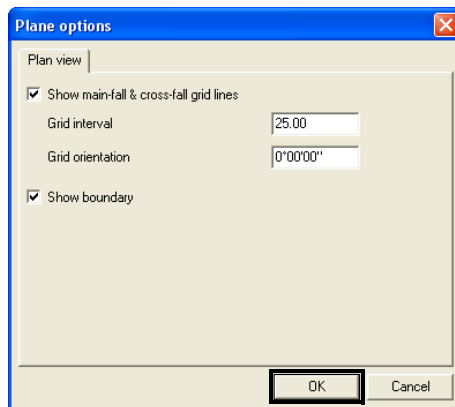

Figure 7-17. Set Plane Surface File Options
2. Select and enter the following information on the *Plane options* dialog box, then click **OK** (Figure 7-17):
- *Grid orientation* rotates the grid. Changing the grid orientation value will also change the main-fall and cross-fall directions shown in the *Plane options* dialog box (Figure 7-17).